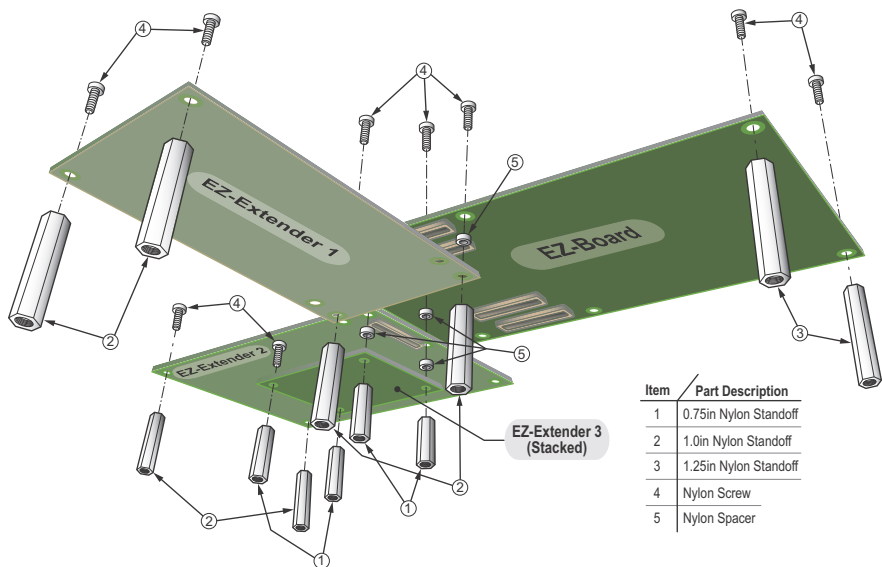

Figure 1-1. Assembled Board Diagram
2. Use the provided hardware to secure the extender to the EZ-KIT Lite/EZ-Board. See Figure 1-1.
3. Refer to the EZ-KIT Lite/EZ-Board manual for information on connecting to a personal computer (PC) and running CCES.